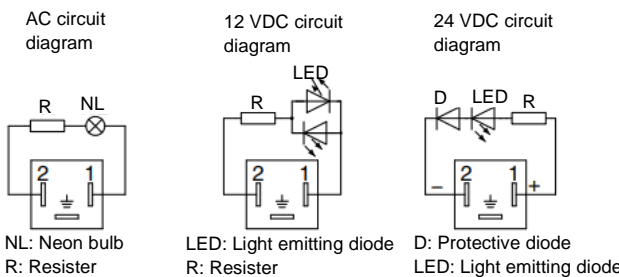

Figure 10. DIN circuit diagram (VEX1101/1201/1301)
- When mounting valves on a manifold ensure correct orientation and position, refer to figure 10 and to the catalogue for more information.